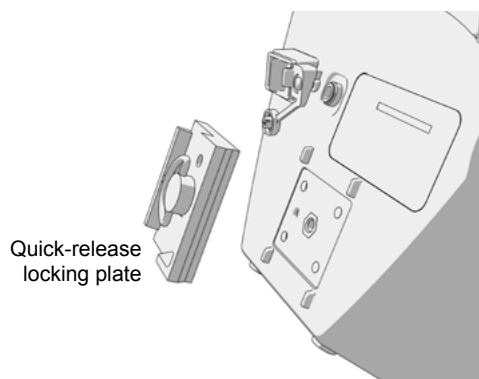

Figure 15: Attach the quick-release locking plate
1. Screw the quick-release locking plate to the back panel of the monitor (**Figure 15**).
2. Screw the quick-release locking plate to the back panel of the monitor (**Figure 15**).